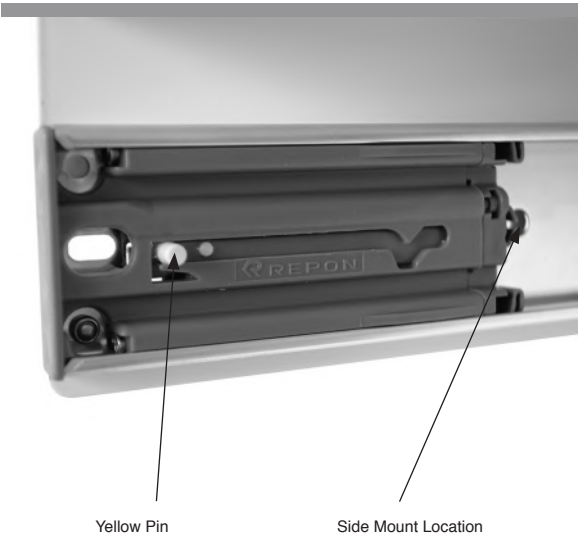

FIG 3
- Push the outer rail fully into the mounting panel. The soft close device will need to be released by manipulating the yellow pin on each runner. Refer FIG 3.
- Use the side mount screws in side mount locations. The rear side mount on each side can be accessed by releasing the soft close mechanism by manipulating the yellow pin. Refer FIG 3.